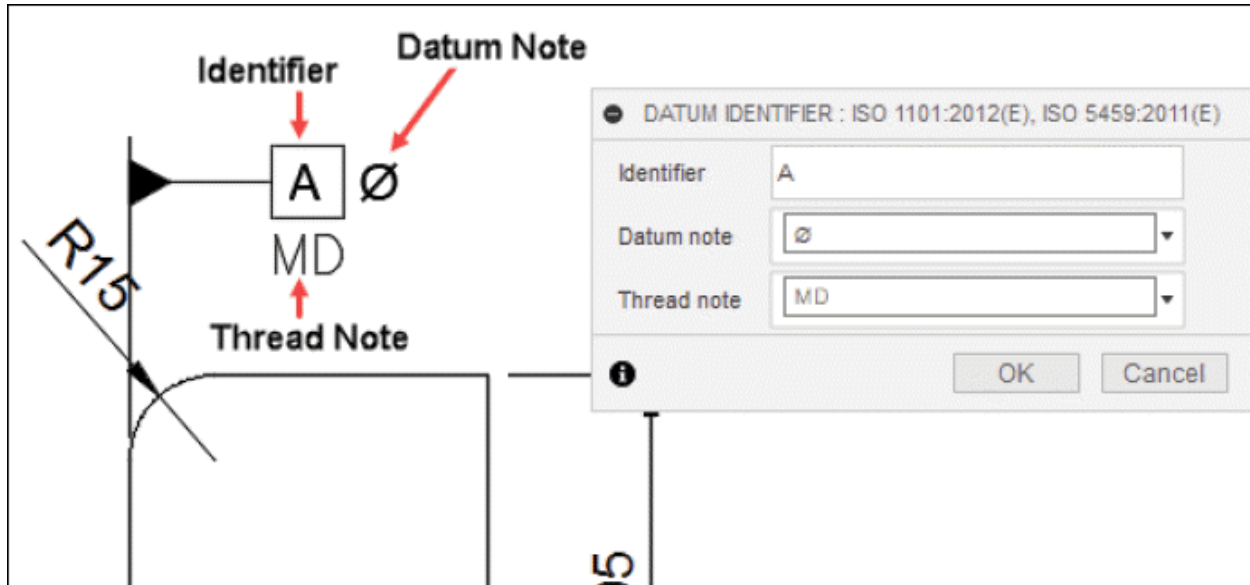

Figure-107. Updated DATUM IDENTIFIER dialog box
- After specifying the parameters, click on the **OK** button from **DATUM IDENTIFIER** dialog box; refer to Figure-107.